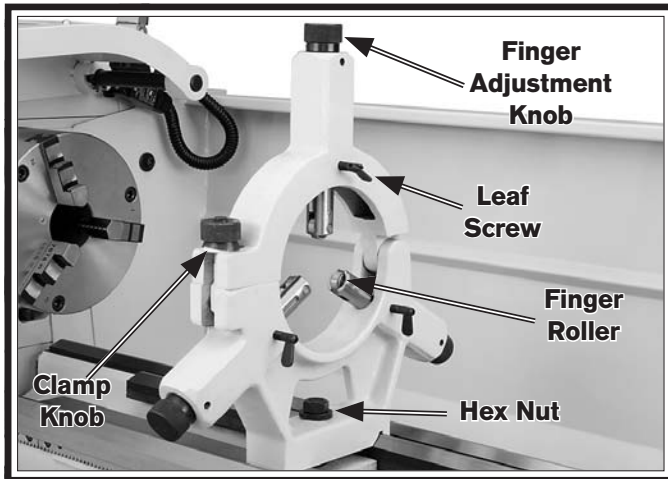

Figure 54. Steady rest components.
Familiarize yourself with the steady rest components shown in **Figure 54** to better understand its operation.
3. Position the steady rest where required to properly support the workpiece, then tighten the hex nut shown in **Figure 54** to secure it in place.